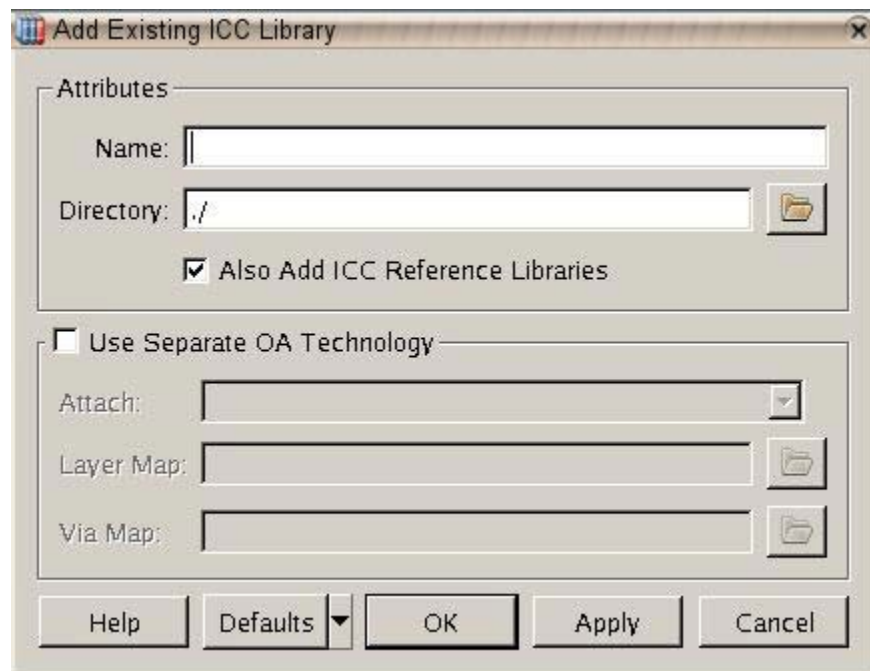

Figure 1 Add Existing ICC Library Dialog
2. In the **Add Existing ICC Library** dialog box (shown in Figure 1), ignore the **Name** field, and browse to choose the IC Compiler design library for this design.